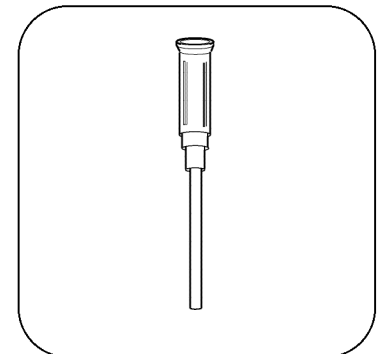

Figure 2
8. Grasp the end of the tube with an atraumatic forcep. If needed, use a floppy-tip guidewire or stylet to stiffen the tube. Protect the anti-reflux valve by placing the introducer cannula (See Figure 2 on back) into the feeding port before you insert the guidewire or stylet.